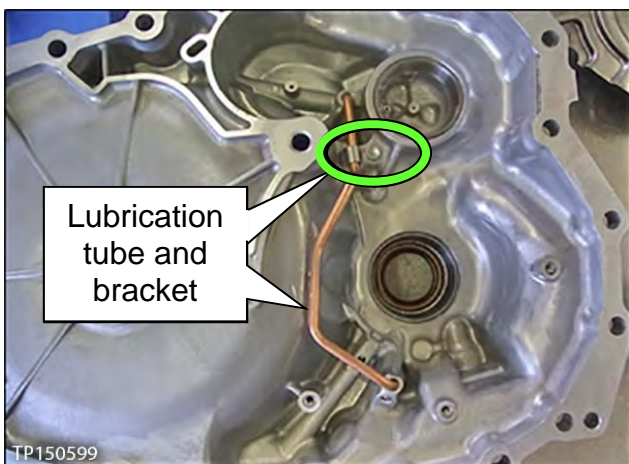
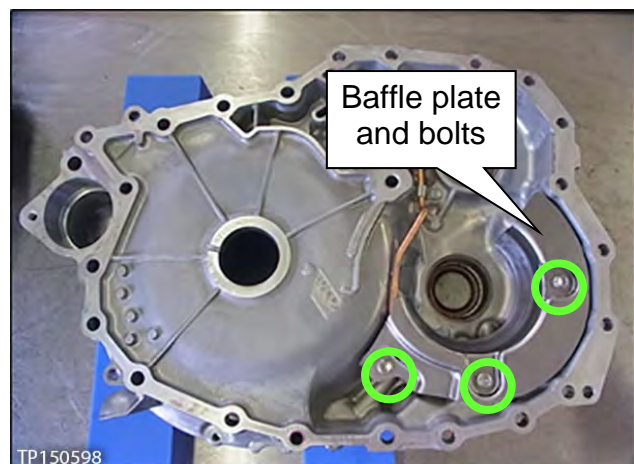

Figure 129
Figure 130
97. Install the lubrication tube, bracket and bolt, and then the baffle plate with three (3) bolts (Figure 129 and Figure 130).